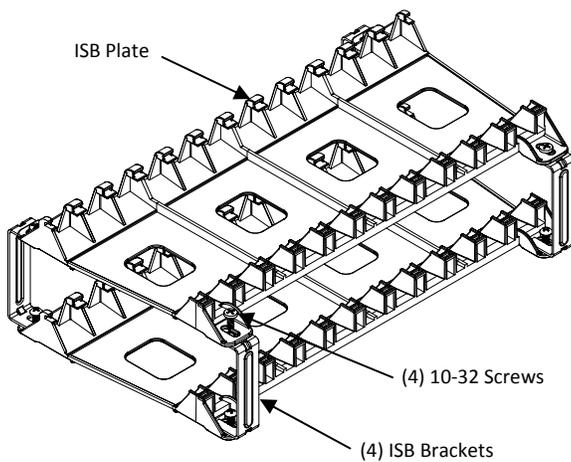

Figure 1
2. Loosen the screws holding the ISB Plate enough to slip the ISB Brackets under the screw. Slide the open end of the ISB Bracket under the screw and tighten. (See Figure 1)
3. Add additional ISB Plate on top of ISB Brackets and tighten with 10-32 screws provided. (See Figure 1)